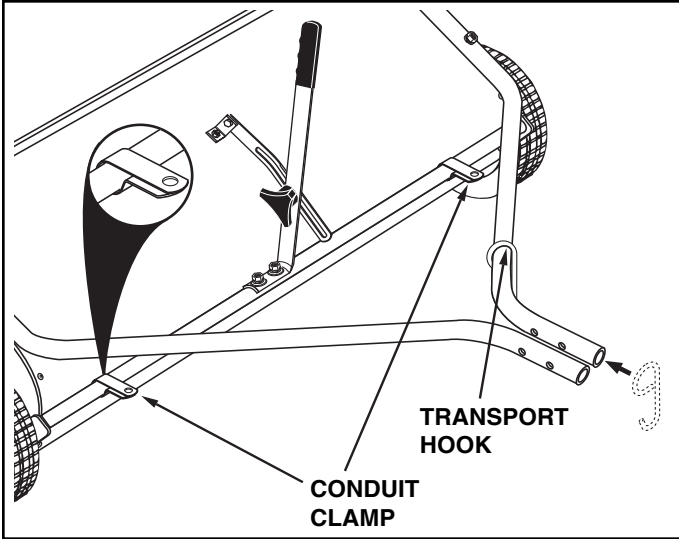

FIGURE 3
6. Assemble a conduit clamp onto each end of the sweeper height adjustment tube so that the straight part of the clamp is on top of the tube. See figure 3.
7. Remove the hitch brackets and the bolts, if present, from the ends of the sweeper's hitch tubes. Slide the transport hook onto the L.H. hitch tube as shown in figure 3.